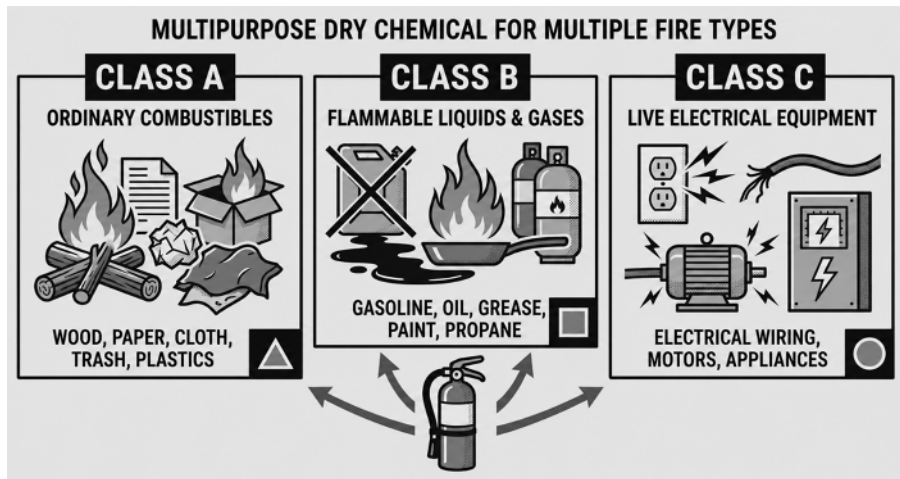

FIGURE 1-1:
- » **Fire extinguisher (ABC):** Multipurpose A-B-C extinguishers (see Figure 1-1) handle ordinary combustibles, flammable liquids, and electrical fires. Keep a small, charged unit in the garage (and a second in the trunk, if you do roadside work).